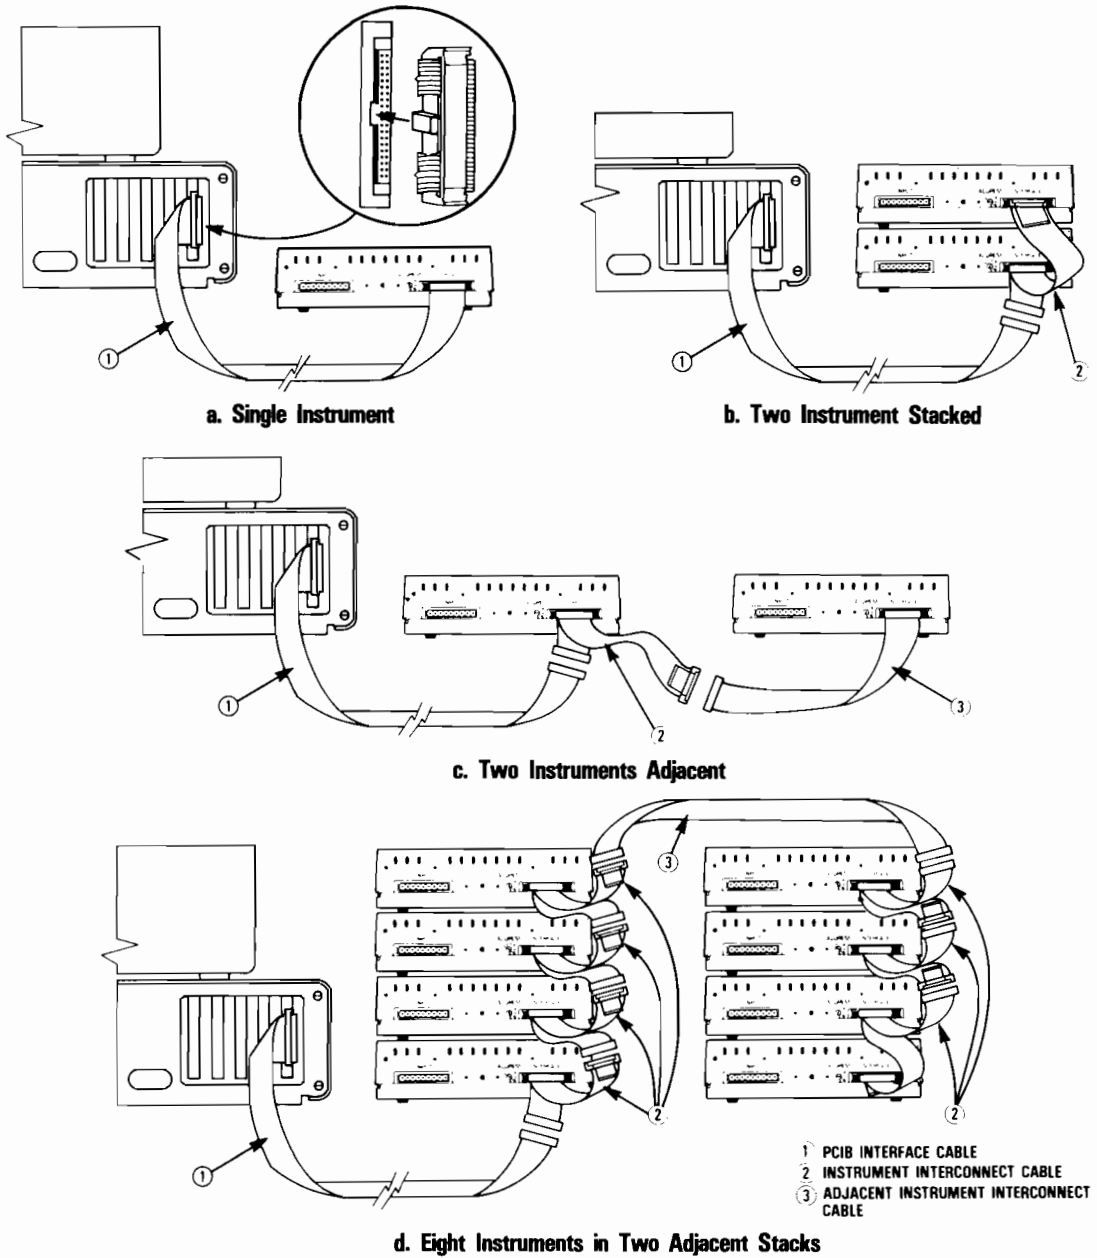

Figure 2-10. Examples of HP PC Instruments System Configurations
Connecting Instruments to the System. Once its address switch is properly set, an instrument module can be connected to the system. Three ribbon cables (see Figure 2-10) are provided for this purpose. The cable connectors are keyed to help you install them correctly. Start by connecting the PC Instruments PCIB Cable (1) to the PC Instruments Interface Card in the computer expansion slot. Spread the latches on the cover plate of the interface card, and insert the straight connector of the interface cable into the socket. The cable will automatically latch when it is fully inserted into the socket. After that, the connections depend on the configuration of your system.